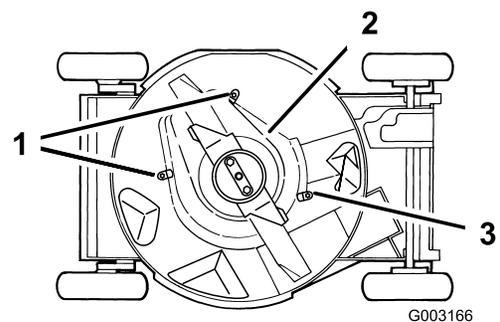

Figure 37
6. Loosen the tabs that secure the blade brake clutch shield to the deck by loosening the nuts or the bolts on the tabs (Figure 37). Rotate the tabs 180° to move them out of the way.